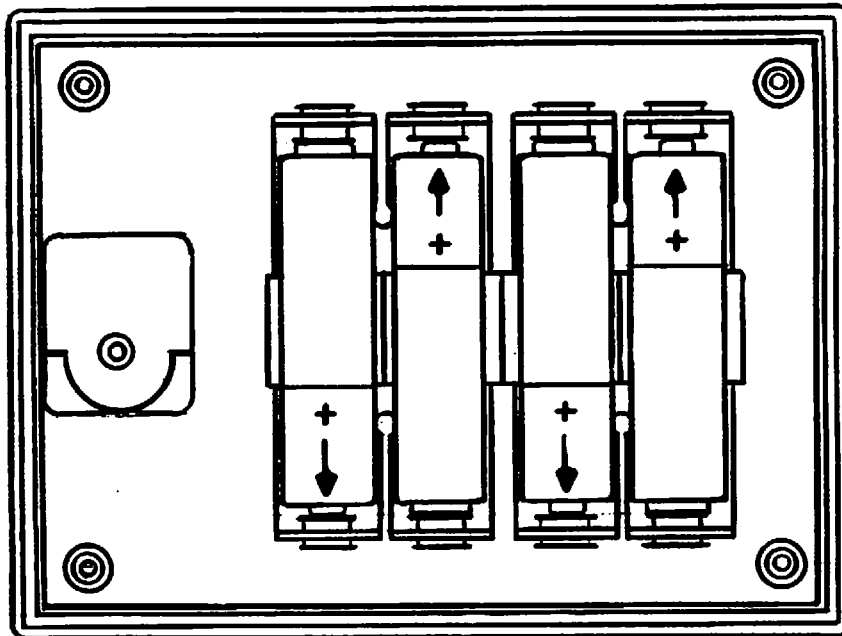

FIGURE 5.6 INSTALLATION/REPLACEMENT OF APGAR TIMER BATTERIES
- B. INSTALL THE BATTERIES in the Timer battery holder as illustrated in Figure 5.6. Be sure to observe polarity.